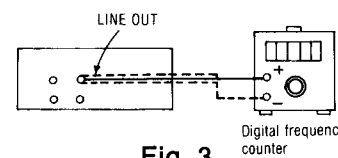

Fig. 3
1. Test equipment connection is shown in Fig. 3.